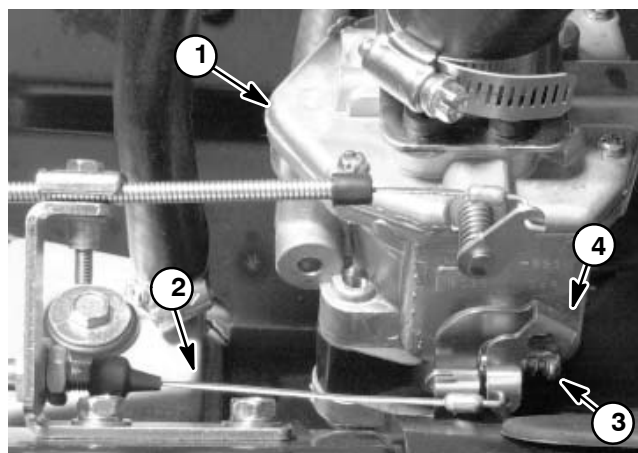

Figure 6
- A. The engine throttle control lever should be to the fully open position (Fig. 6).